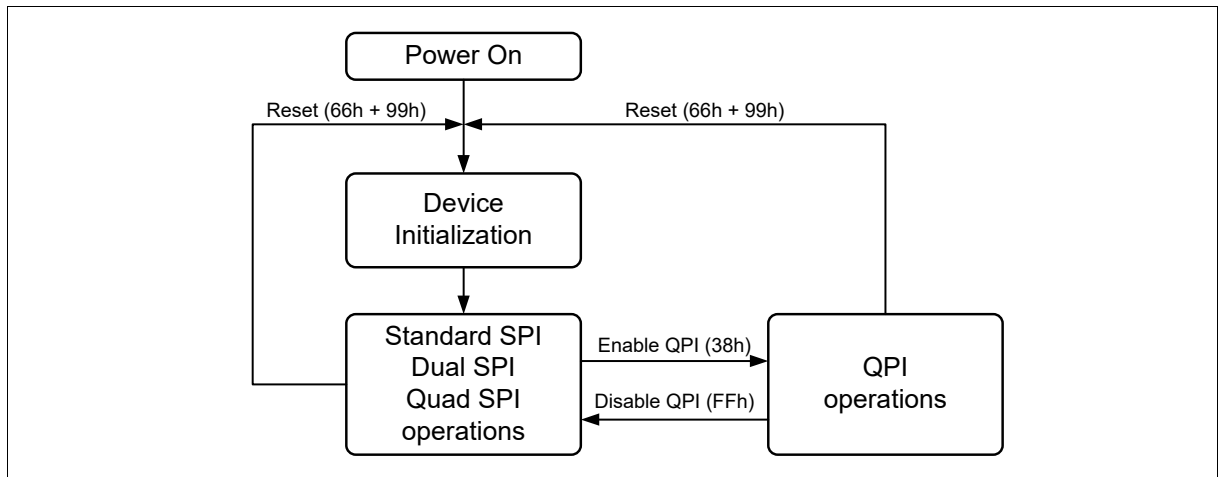

Figure 2 FM25Q08B Serial Flash Memory Operation Diagram
The FM25Q08B supports Quad Peripheral Interface (QPI) operations only when the device is switched from Standard/Dual/Quad SPI mode to QPI mode using the “Enable QPI (38h)” instruction. The typical SPI protocol requires that the byte-long instruction code being shifted into the device only via DI pin in eight serial clocks. The QPI mode utilizes all four DQ pins to input the instruction code, thus only two serial clocks are required. This can significantly reduce the SPI instruction overhead and improve system performance in an XIP environment. Standard/Dual/Quad SPI mode and QPI mode are exclusive. Only one mode can be active at any given time. “Enable QPI (38h)” and “Disable QPI (FFh)” instructions are used to switch between these two modes. Upon power-up or after a software reset using “Reset (99h)” instruction, the default state of the device is Standard/Dual/Quad SPI mode. To enable QPI mode, the non-volatile Quad Enable bit (QE) in Status Register-2 is required to be set. When using QPI instructions, the DI and DO pins become bidirectional DQ0 and DQ1, and the WP# and HOLD# pins become DQ2 and DQ3 respectively. See Figure 2 for the device operation modes.